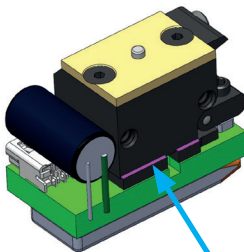
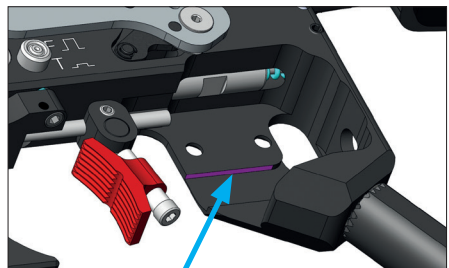

Fig. 3
Fig. 4
The e-trigger has a small, pink edge mark for alignment (Fig. 3). Your LP500 has a matching pink counterpart (Fig. 4).
1. Place the e-trigger in the frame in such a way that the two marked areas are in contact with one another (Figs. 3, 4, 5). You may have to open the first-stage travel adjustment screw (a) slightly.